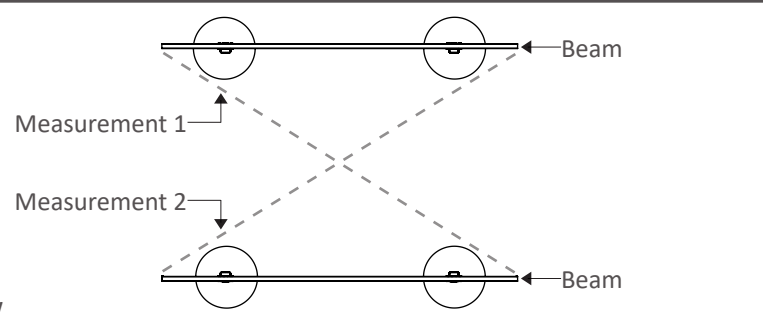

Fig. 21
6. While keeping the Beams in position, use Evolution Self-Drilling Screws to fasten Single Beam to Post Brackets onto each Beam. As shown in Fig. 21. The use of Clamps is recommended to keep Beams in desired position.